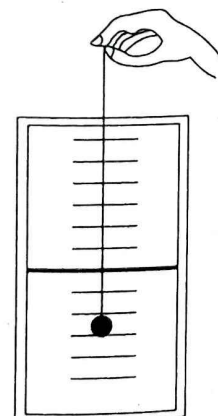

Fig. 2.9
- (ii) The given solid is tied to a piece of thread and is immersed in the cylinder as shown in figure 2.9.